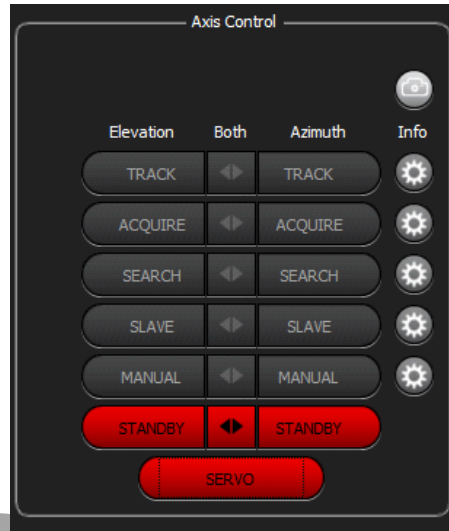

Figure 22: Axis Control Window, Red Servo Button
The Axis Control section, shown in Figure 22, shows the available independent axis control modes, the servo On-Off button, and the (right hand side) Gear Icon (hot buttons) used for immediate display of the linked control and parameter input windows. When activated, those windows display directly to the right of Axis Control.
1. In the Axis Control window, select the red Servo power button, as shown in Figure 22.